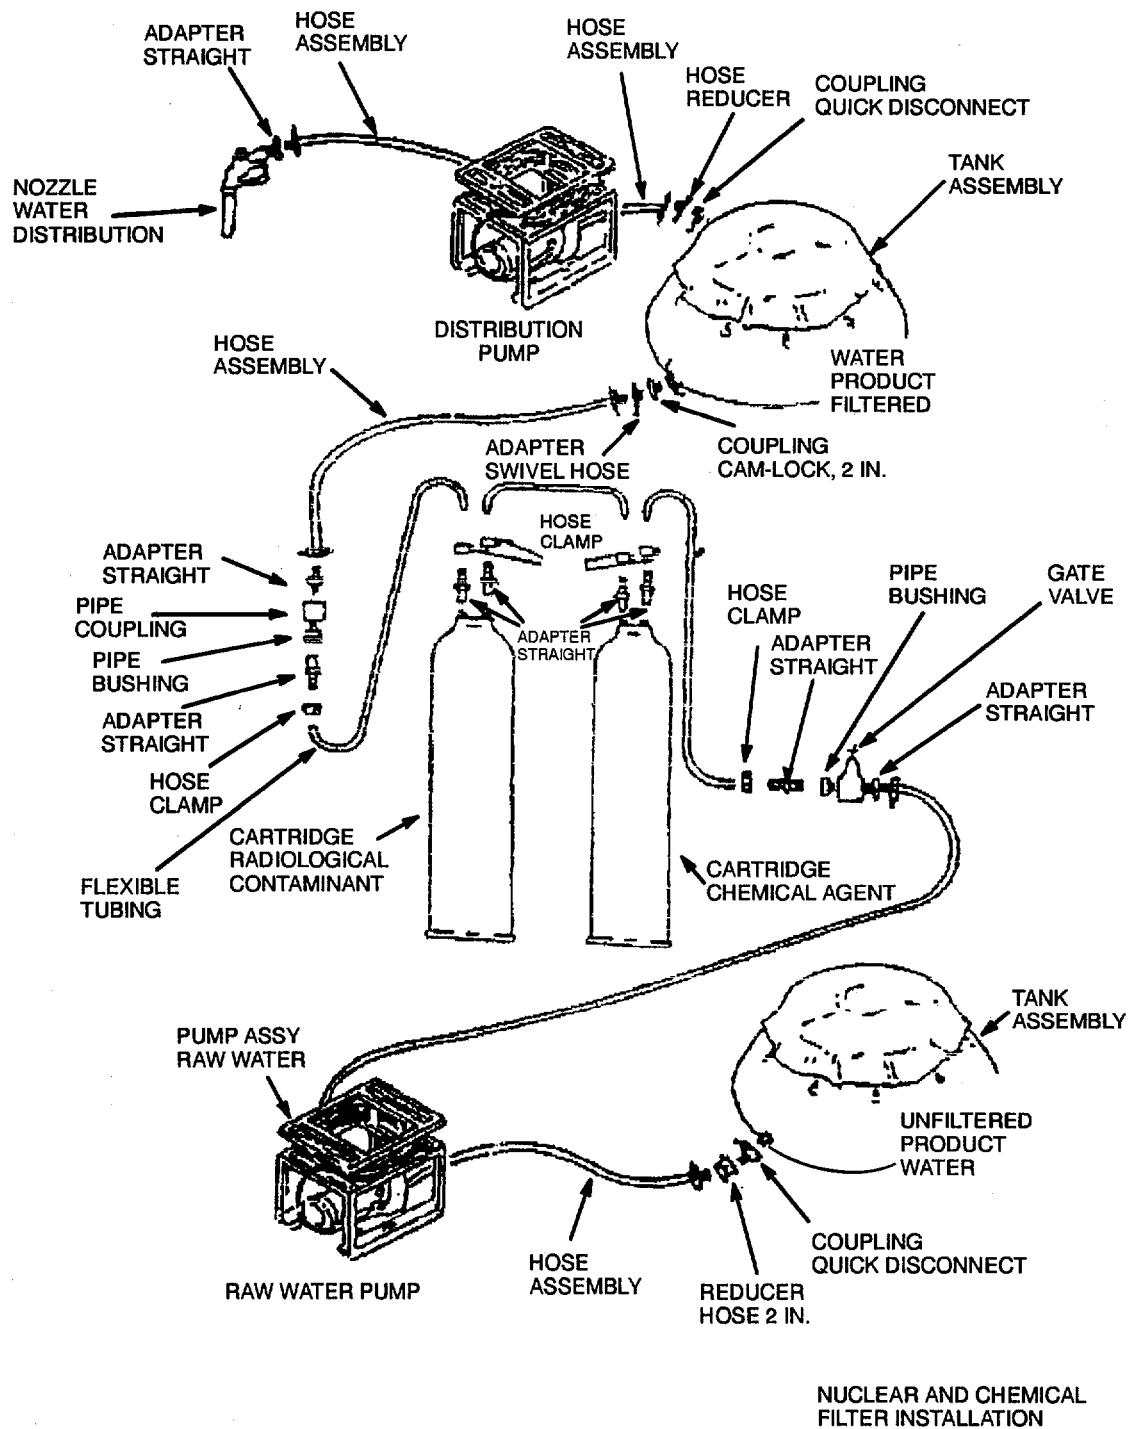

FIGURE 2-78. NUCLEAR AND CHEMICAL FILTER INSTALLATION
- c. Exchange the inlet and outlet raw water pump adapter which is used in the NBC system and prepare to assemble NBC filters between two raw water tanks as shown in (figure 2-78).
- d. Use one of the raw water pumps to force the water through the NBC cartridges. Install raw water pump (figure 2-78).
- (1) Install 1 1/2 in. suction hose from raw water tank and swivel adapter on raw water pump.
- (2) Attach female end of distribution (suction or discharge) hose to straight adapter on raw water pump.
- (3) Attach swivel adapter to gate valve and attach male end of distribution hose to swivel adapter.
- (4) Attach shoulder bushing and adapter to gate valve.
The NBC cartridges should be positioned so that the cartridge marked "FOR USE WITH CHEMICALLY CONTAMINATED WATER ONLY" is FIRST in the series. Position the cartridge marked "FOR USE WITH RADIOACTIVE CONTAMINATED WATER" so that water is filtered through this cartridge LAST as shown in (figure 2-78).
- e. Assemble the NBC cartridges in series (figure 2-78).
- (5) Cut one section of 3/4 in. x 80 in. flexible tubing to a maximum length of 24 in.
- (6) Slide clamp over end of tubing.
- (7) Remove plug from OUTLET port on FOR USE WITH CHEMICALLY CONTAMINATED WATER cartridge and insert adapter into cartridge.
- (8) Attach tubing to adapter on OUTLET port and close clamp.
- (9) Remove plug from INLET port on FOR USE WITH RADIOACTIVE CONTAMINATED WATER cartridge and insert adapter into cartridge.
- (10) Slide clamp over end of tubing.
- (11) Attach tubing to adapter on INLET port and close clamp.
- (12) Slide clamp over end of second section of 3/4 in. x 8 in. flexible tubing.
- (13) Remove plug from OUTLET port on FOR USE WITH RADIOACTIVE CONTAMINATED WATER cartridge and insert adapter.
- (14) Attach tubing to adapter on OUTLET port and close clamp.
- f. Complete connection of NBC cartridge to second raw water tank (figure 2-78).
- (1) Slide clamp over remaining end of 3/4 in. x 80 in. flexible tubing.
- (2) Insert adapter into tubing and close clamp.
- (3) Attach shoulder bushing, pipe coupling, and straight adapter to 1 1/2 in. discharge hose and connect to second raw water tank (figure 2-78).